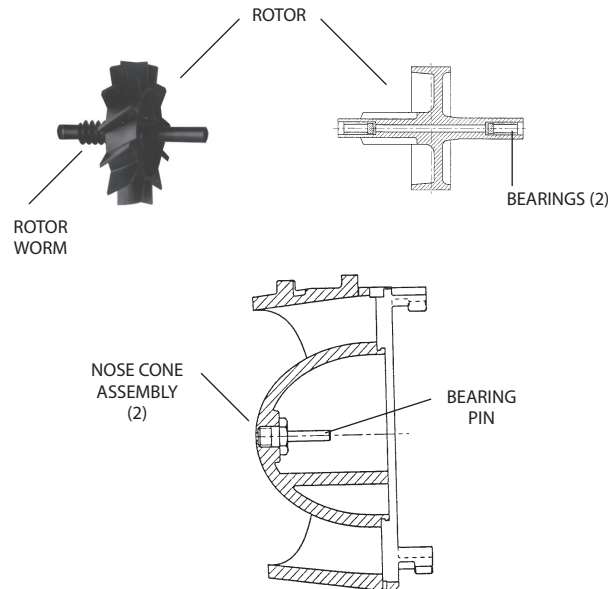

Figure 12: Rotor and nose cone assembly (2", 3", 4" and 6" turbo head assemblies)
2. Take hold of the nose cone/straightening vanes and turn them clockwise, thereby disengaging the calibration linkage from the tab on the calibration ring and unlocking the bayonets of the nose cones from the cage (see Figure 12).
Check the rotor worm and blades for signs of damage and wear. Also inspect the bearing bushings in the front and rear shaft. If damage or wear has occurred, replace the part (see Figure 12). If water deposits are found, remove any mineral deposits from the rotor blade surfaces, cage insert interior disc, and nose cone vanes and mating surfaces.
Inspect the rotor bearing pins in the straightening vane and nose cone assembly for signs of damage and wear (see Figure 12). The spherical end of the bearing pin must not show any drag lines and/or wear.